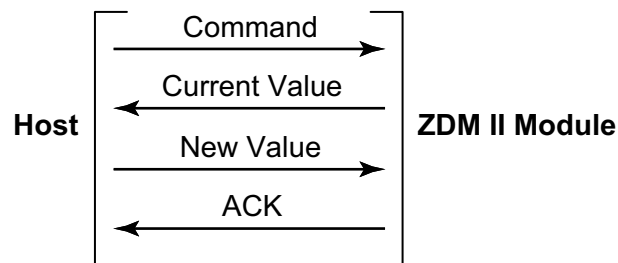

Figure 6. Write Command Structure
- When the data value is received, the device returns an ACK. If no data is received after the inactivity time-out period of 2.5 seconds, the device returns a NACK. See the example in Figure 6.